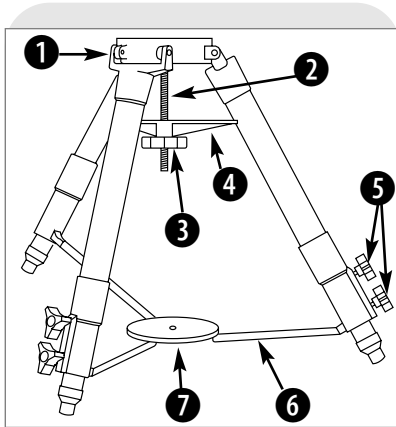

Fig. 44: The Super Giant Field Tripod:
The 16" Super Field Tripod (Figs. 44 and 45) for the Meade 16" LX200GPS telescope is supplied as a completely assembled unit, except for the spreader bar (4, Fig. 44) and the six lock-knobs (5, Fig. 44). There are two knobs for each of the three tripod legs. They are used to adjust the level of the tripod. These knobs are packed separately for safety in shipment.
After removing the field tripod from its shipping carton, stand the tripod vertically, with the tripod feet down and with the tripod still fully collapsed (Fig. 45). Remove the lower knob (1, Fig. 45), releasing the tension hub (7, Fig. 44). This knob is used only when storing the field tripod. Moving one leg at a time, gently pull the legs apart. As the legs are opened, the tension hub will move down the threaded rod (2, Fig. 44) until it is free from the threaded rod. Continue to move the legs apart to a fully open position.
Thread in the two lock-knobs (5, Fig. 44) for each tripod leg, near the foot of each leg. These lock-knobs are used to fix the position of the inner tripod leg sections. These sections are used to level the telescope (described below).
Loosen the tension knob (3, Fig. 44), holding the spreader bar (4, Fig. 44), and slide the spreader bar down the threaded rod until you can rotate it so that the three arms align with the three tripod legs. Tighten the tension knob (Fig. 46) to a firm feel; firm tightening of the tension knob is sufficient to result in rigid positioning of the legs. **Do not use force in tightening this knob.**
- Level the drive base by loosening the six lock-knobs (5, Fig. 44) and sliding out the inner tripod legs.